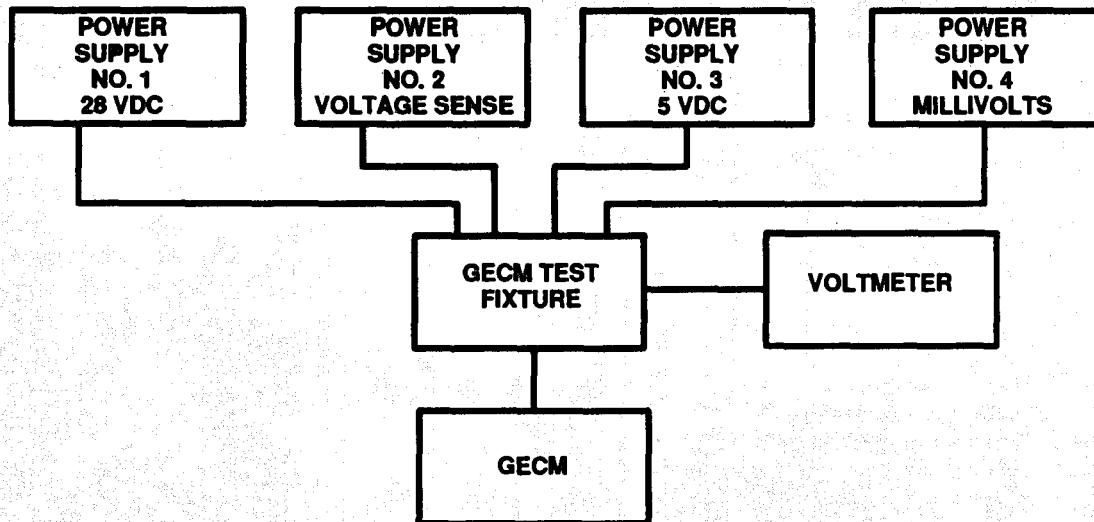

Figure 4-1. GECM Test Setup
(1) Fabricate a GECM test fixture. An illustration, parts list, and schematic, are provided in Table 2-3. Table 4-1 lists additional equipment required for GECM testing.
(2) Connect GECM to test fixture as shown in Figure 4-1.
(3) Adjust test fixture switches and knobs as follows: